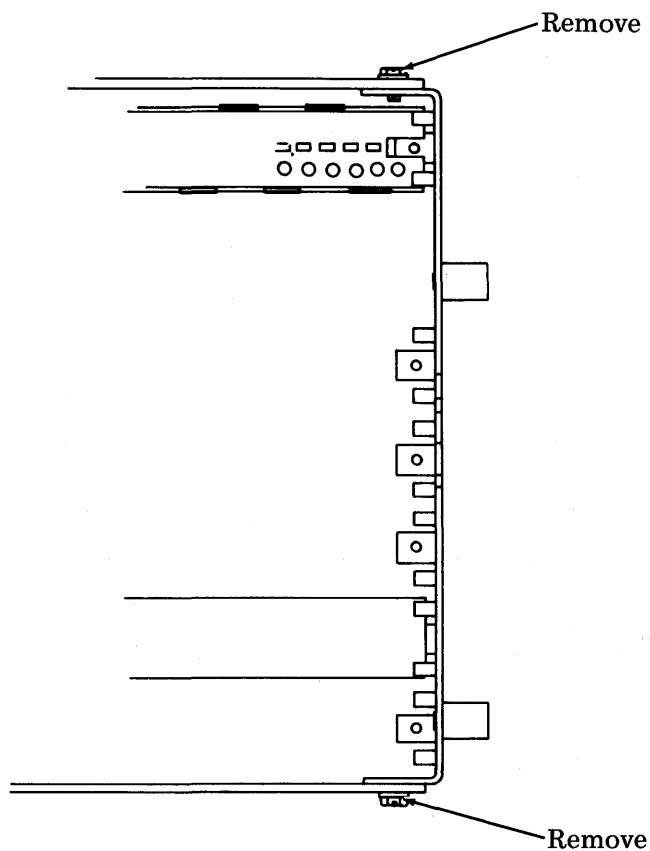

Fig. 29—Right Side Frame Removal
- (d) Remove the right side frame by removing four screws (Fig. 29).